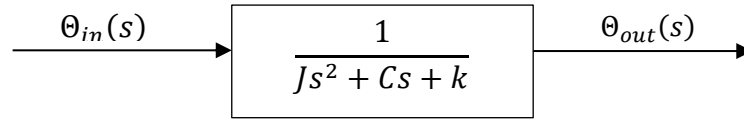
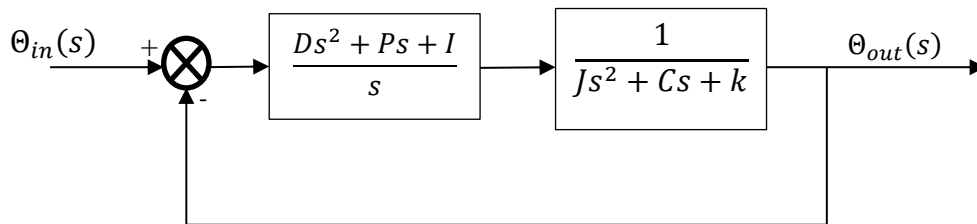

Figure Q2
Figure Q3
2. The block diagram for an open loop, 2nd order system is shown in Figure Q2.
The open loop system in Figure Q2 is then incorporated into a closed loop system as shown in Figure Q3.
- (d) What is the overall transfer function,  $G(s) = \frac{\theta_{out}(s)}{\theta_{in}(s)}$  for the system shown in Figure Q3? [5]